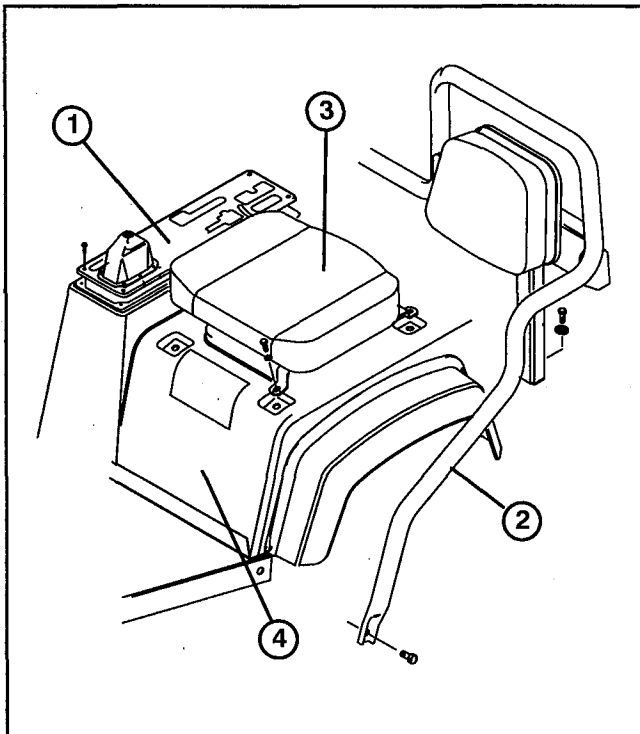

Figure 1
3. Remove (6) screws securing outside edge of center console cover plate to console and remove cover plate (Fig. 1).
4. Loosen (2) capscrews and locknuts securing front legs of seat frame to sides of vehicle floor (Fig. 1).
5. Remove (2) capscrews and lockwashers securing seat frame brackets to vehicle frame (Fig. 1). Pivot seat frame forward.
8. Remove (4) capscrews and lockwashers securing each set of seat brackets to vehicle frame and remove seat assemblies (Fig. 1). Lift off skirt and fender assembly.